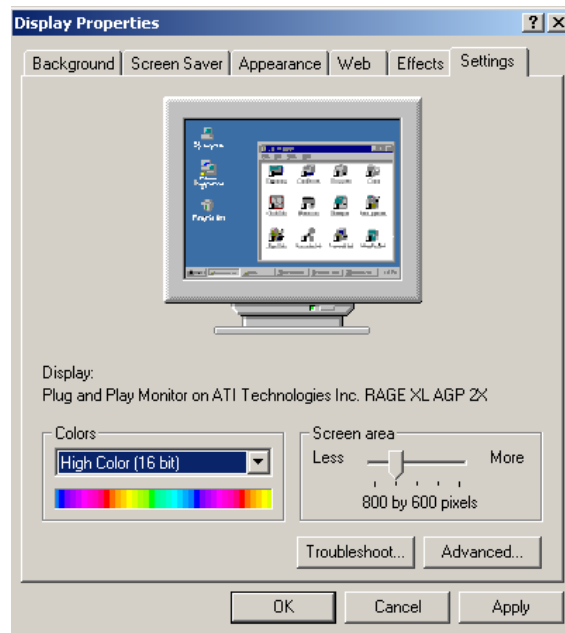

Figure III-1 : PC display properties
1. Make sure the screen configuration is properly set in the configuration panel under “Windows” (see Figure III-1). To enter click right on any free area of the desktop and select [Properties], then [Settings] in the popping up window. The colour parameter has to be set to “High Colour (16 bit)”. The screen area has to be set to “800 x 600 pixels”.